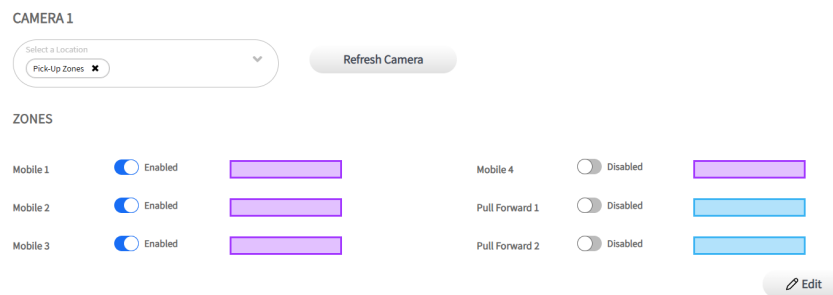

Fig. 5.5
7. If Pick-Up Zones is selected, toggle the switch to enable a zone, and a polygon (in purple or blue) will appear in your camera view. Fig. 5.5 shows Mobile 1, 2, and 3 enabled, so three purple polygons appear in the camera view. When you move the cursor over a polygon, it turns into a hand that lets you grab and drag it into position.